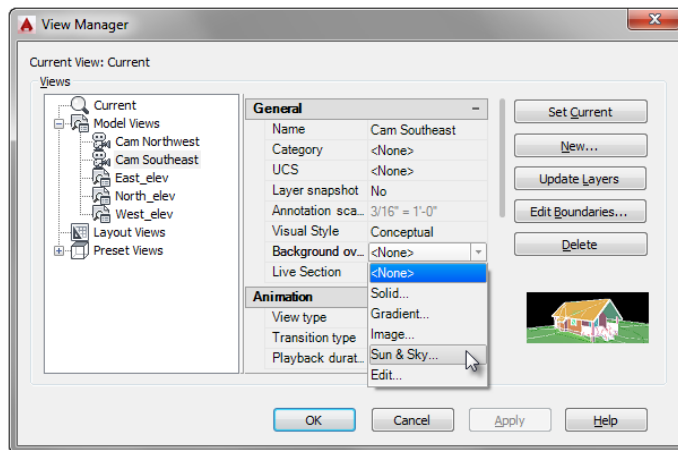

FIGURE 17.22: The Cam Southeast camera selected in the View Manager dialog box
4. Expand the drop-down list for the Background Override entry in the General rollout, and then choose Sun & Sky, as shown in Figure 17.22.